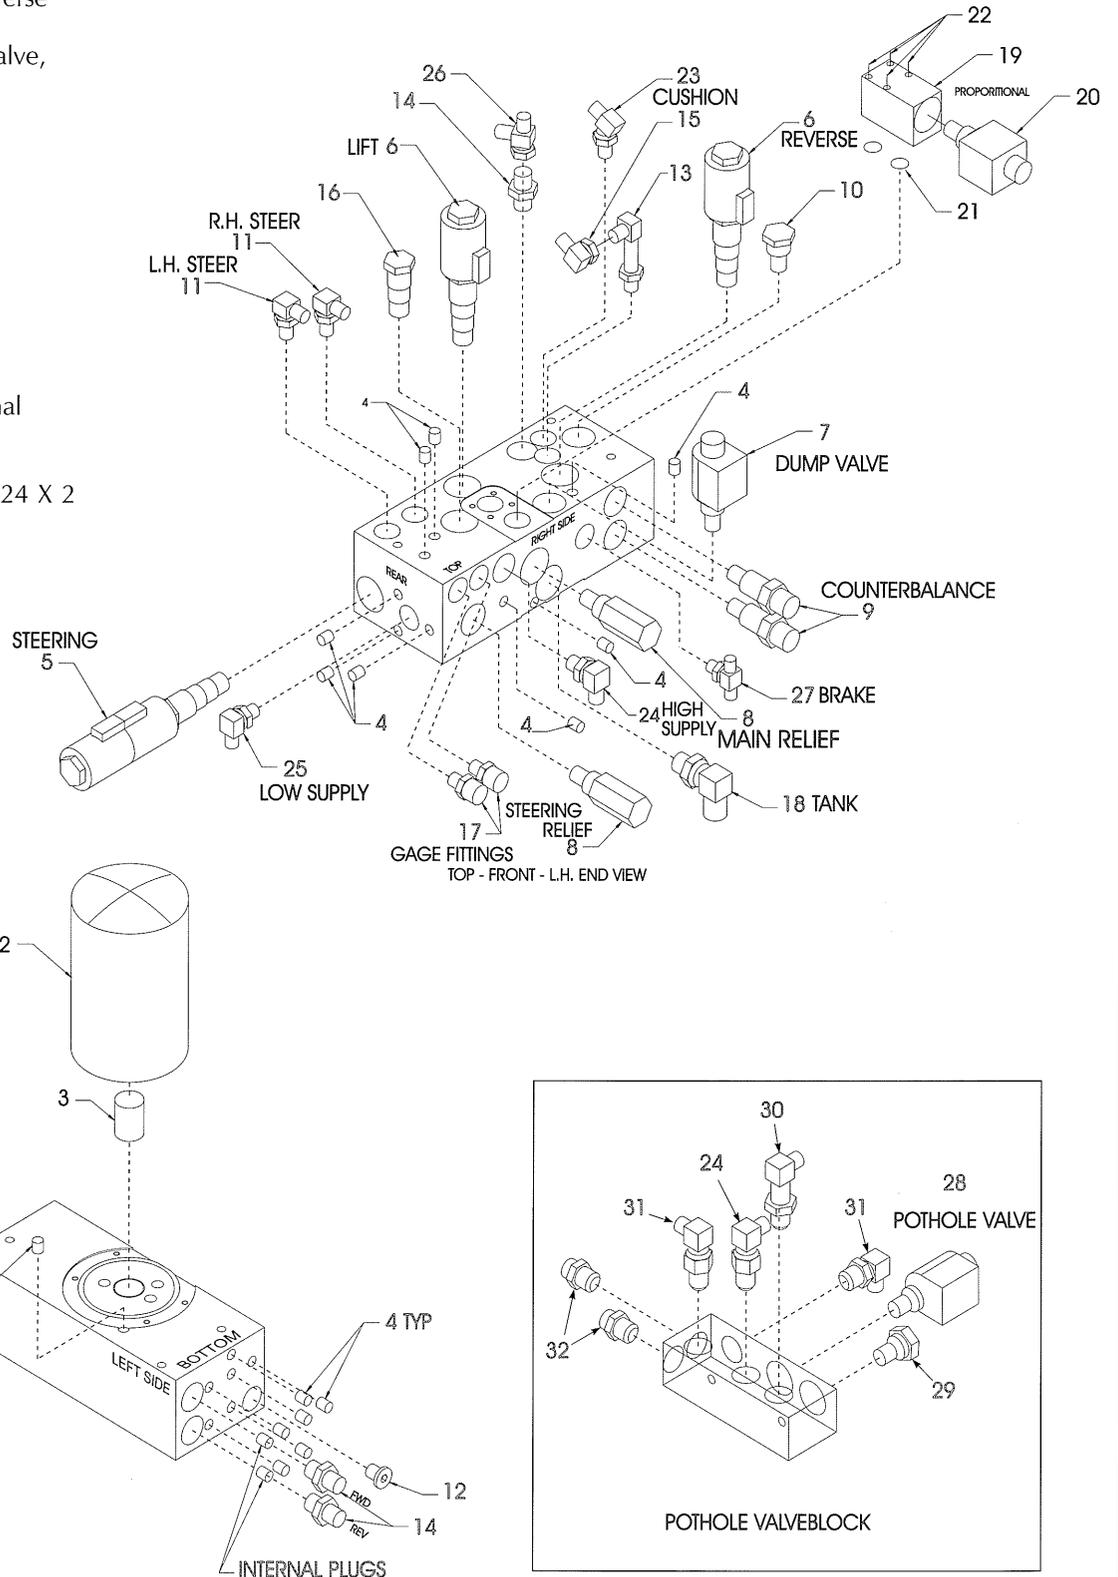

Figure 3-10: Hydraulic Manifold, Exploded View
### 3.7 Hydraulic Manifold (Figure 3-10)
**NOTE: Mark all components as they are removed so as not to confuse their location during assembly. Refer to Figure 3-10 often to aid in disassembly and assembly.**